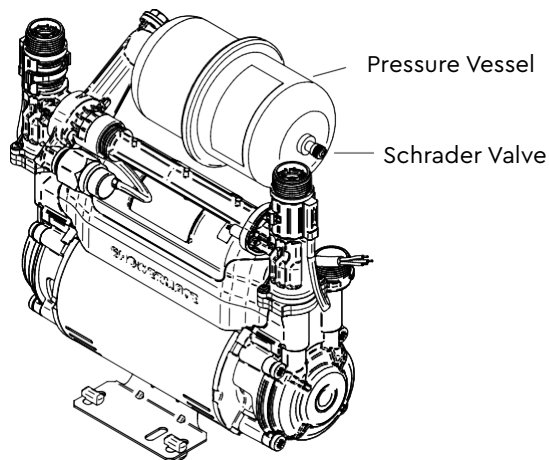

Figure 13
- d. Check air charge at Schrader valve (Figure 13) using a tyre pressure gauge.